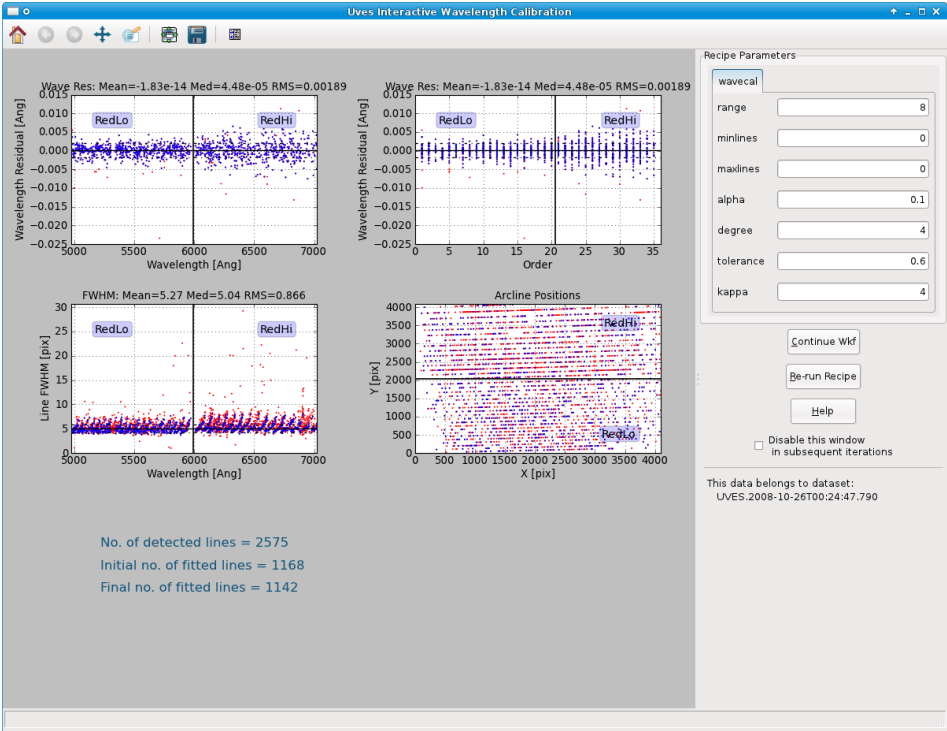

Figure 7.2: The interactive window for the Wavelength Calibration actor for the first DataSet in the data supplied with Reflex 2.8.
11. **Wavelength Calibration:** The next interactive window that will appear (see Figure 7.2) is associated with the execution of the `Wavelength Calibration` actor, which executes the UVES pipeline recipe `uves_cal_wavecal`. This pipeline recipe determines the wavelength calibration solution from an appropriate arc-lamp frame and a line reference catalogue. The top two plots in the interactive window show the wavelength calibration residuals for arc lines that were identified in the input line reference catalogue as a function of wavelength and spectral order. Blue points represent arc lines that were used in the final solution, and red points represent arc lines that were excluded from the final solution. The bottom-left plot shows the arc line FWHM as a function of wavelength, and the bottom-right plot displays the positions of all detected arc lines on the detector.